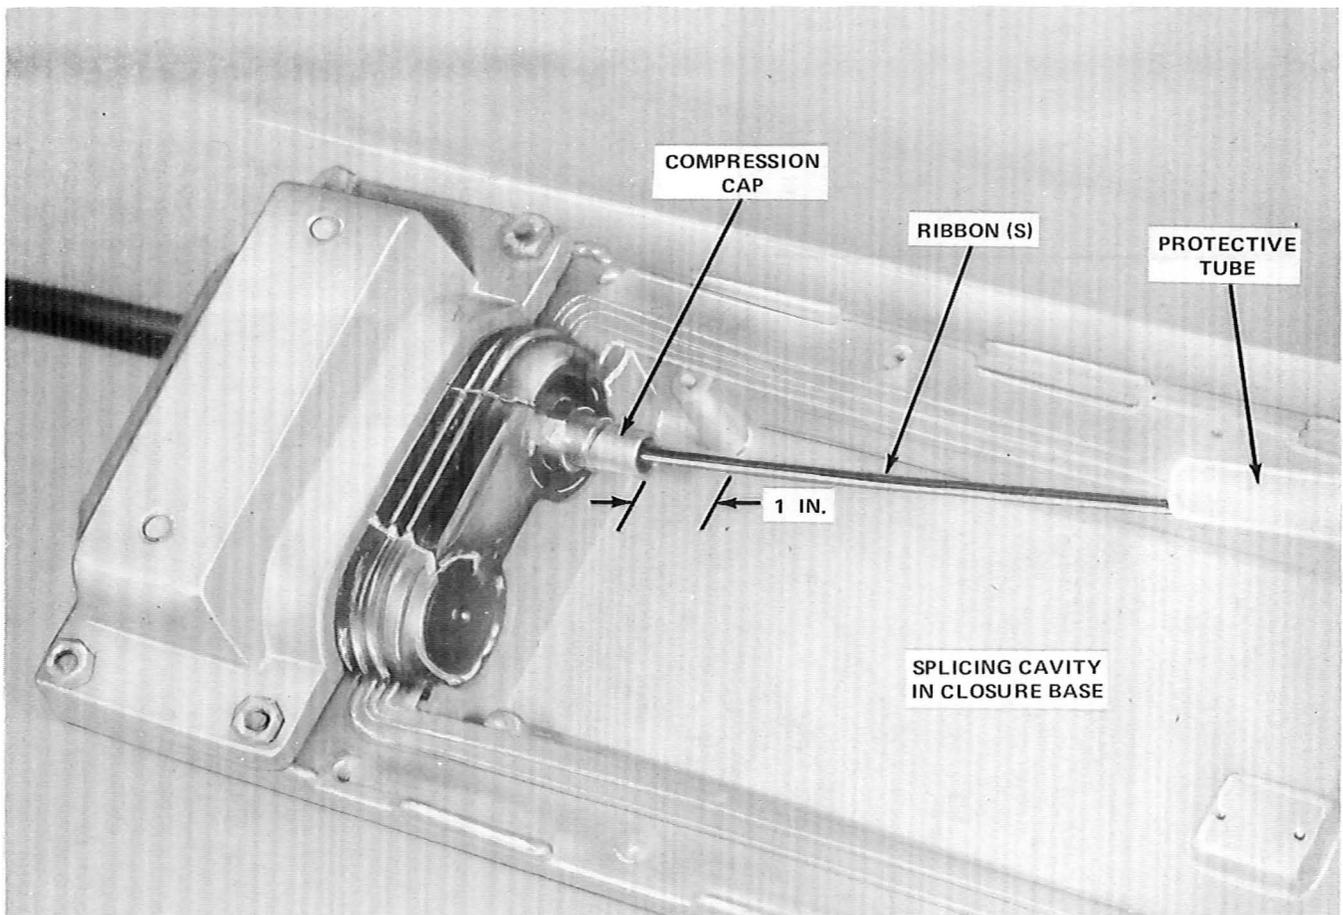

Fig. 46—Applying B Sealant to Compression Cap and Ribbons
7.03 For factory-installed STH, apply a thin coating of B sealant on the compression cap and *on and between* the ribbons for approximately 1 inch, starting at the compression cap, as shown in Fig. 46.